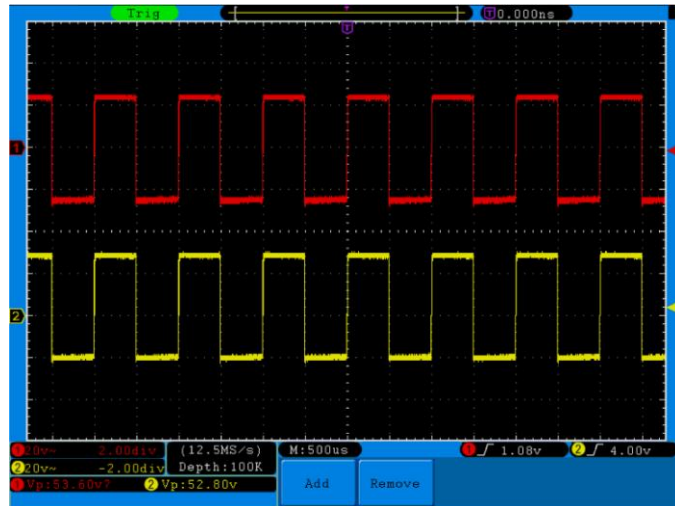

Fig. 79 Waveform of Gain Measurement
8. Read the peak-to-peak voltages of Channel 1 and Channel 2 from the bottom left of the screen (See **Fig. 79**).